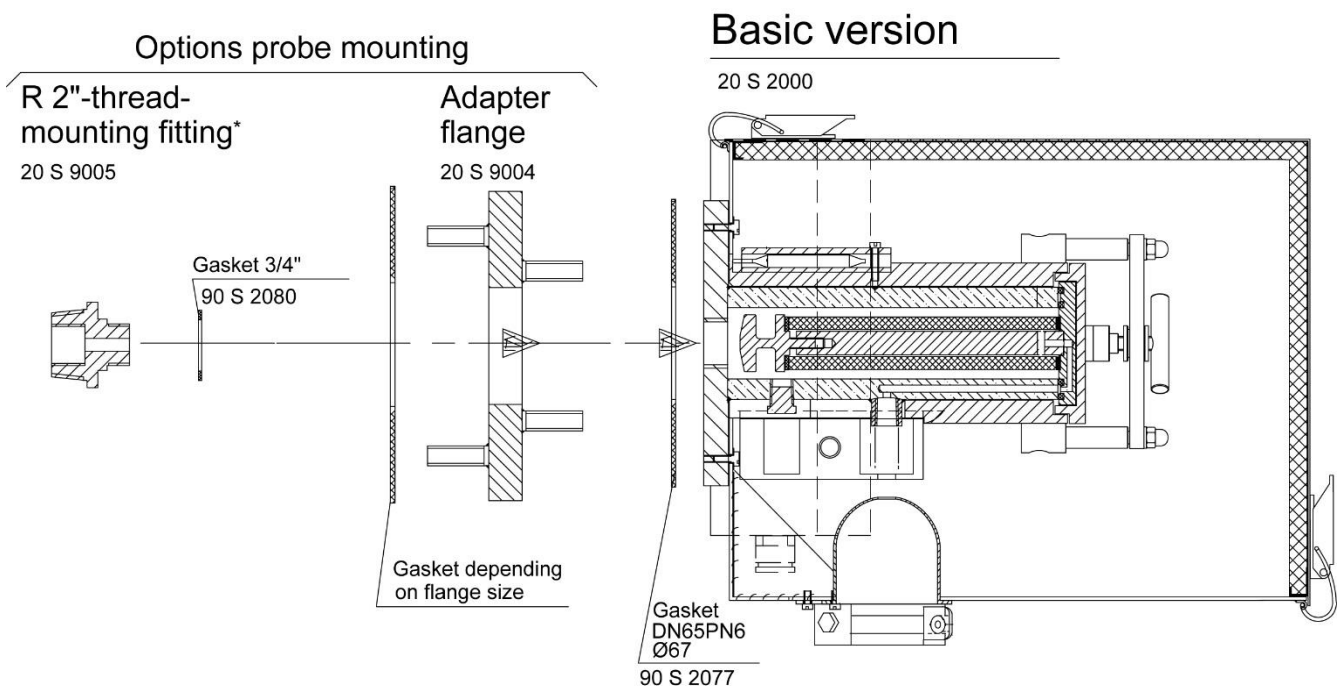

Figure 2 Mounting possibilities SP2000..., SP2300-H, SP2400-H
- If the probe connection does not correspond to the standard flange connection DN65 PN6, then the optionally supplied adapter flange (Fig. 2 and 6) should be mounted to the probe in the same way.